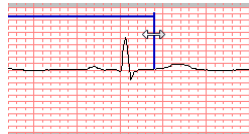

Figure 339 – Editing a defined Marker
2. Press and hold down the left mouse button and move the cursor to the new location (see Figure 339). The measurement border will move along with the cursor.